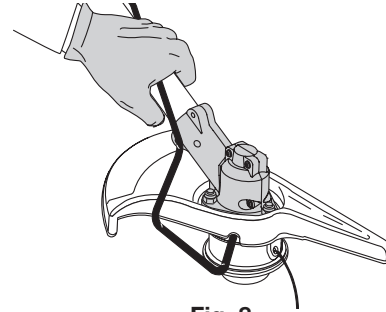

Fig. 8
2. Hold the locking rod in place by grasping it next to the boom of the unit (Fig. 8).